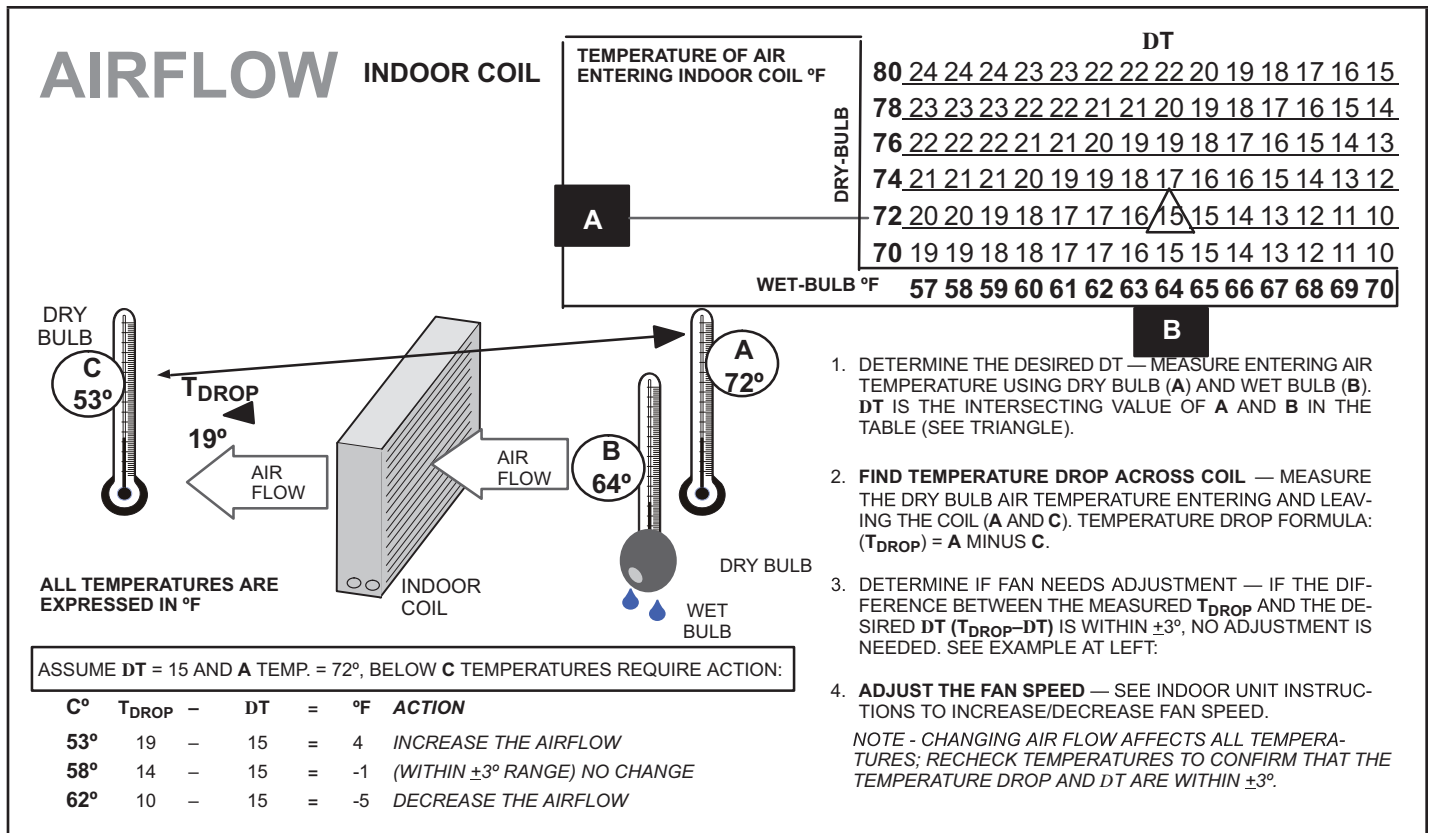

FIGURE 57. Checking Indoor Airflow over Evaporator Coil using Delta-T Chart
- 2 - Check and adjust indoor airflow as described in FIGURE 57.
Check airflow using the Delta-T (DT) process using the illustration in FIGURE 57.